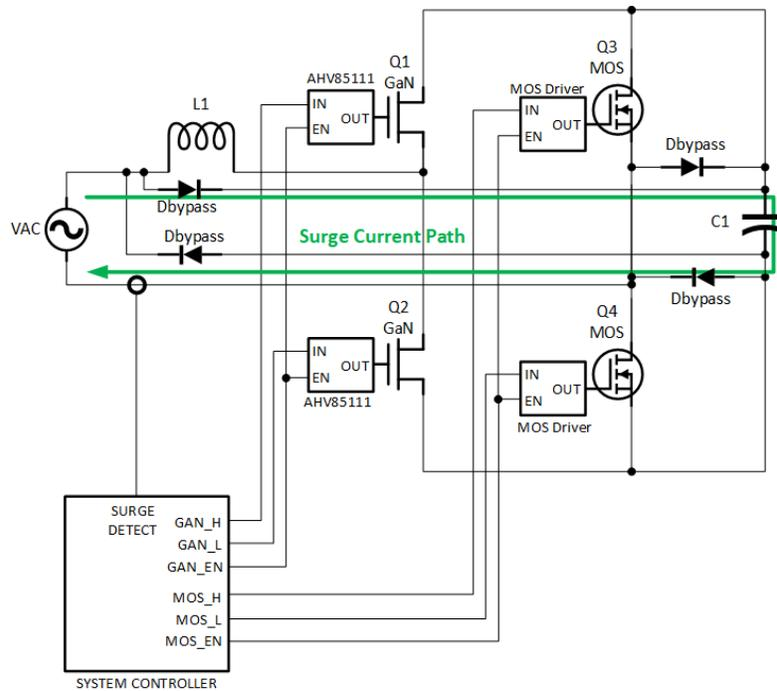

Figure 12: Block diagram of system level surge-detection inhibit signal; used to disable isolated gate drivers using the EN pins
It is recommended to use the driver enable (EN) pin to achieve a power-train “safe-state” during such external transient events. An example of the use of this safe-state architecture is shown in Figure 12, for a Totem-Pole PFC power stage. When a surge event is detected, the system controller inhibits the PWM gate drive signal to both GaN and MOS legs, and also pulls down the open-drain Enable (EN) lines to all drivers. This puts the power train into a safe state and ensures a robust response to the surge event.